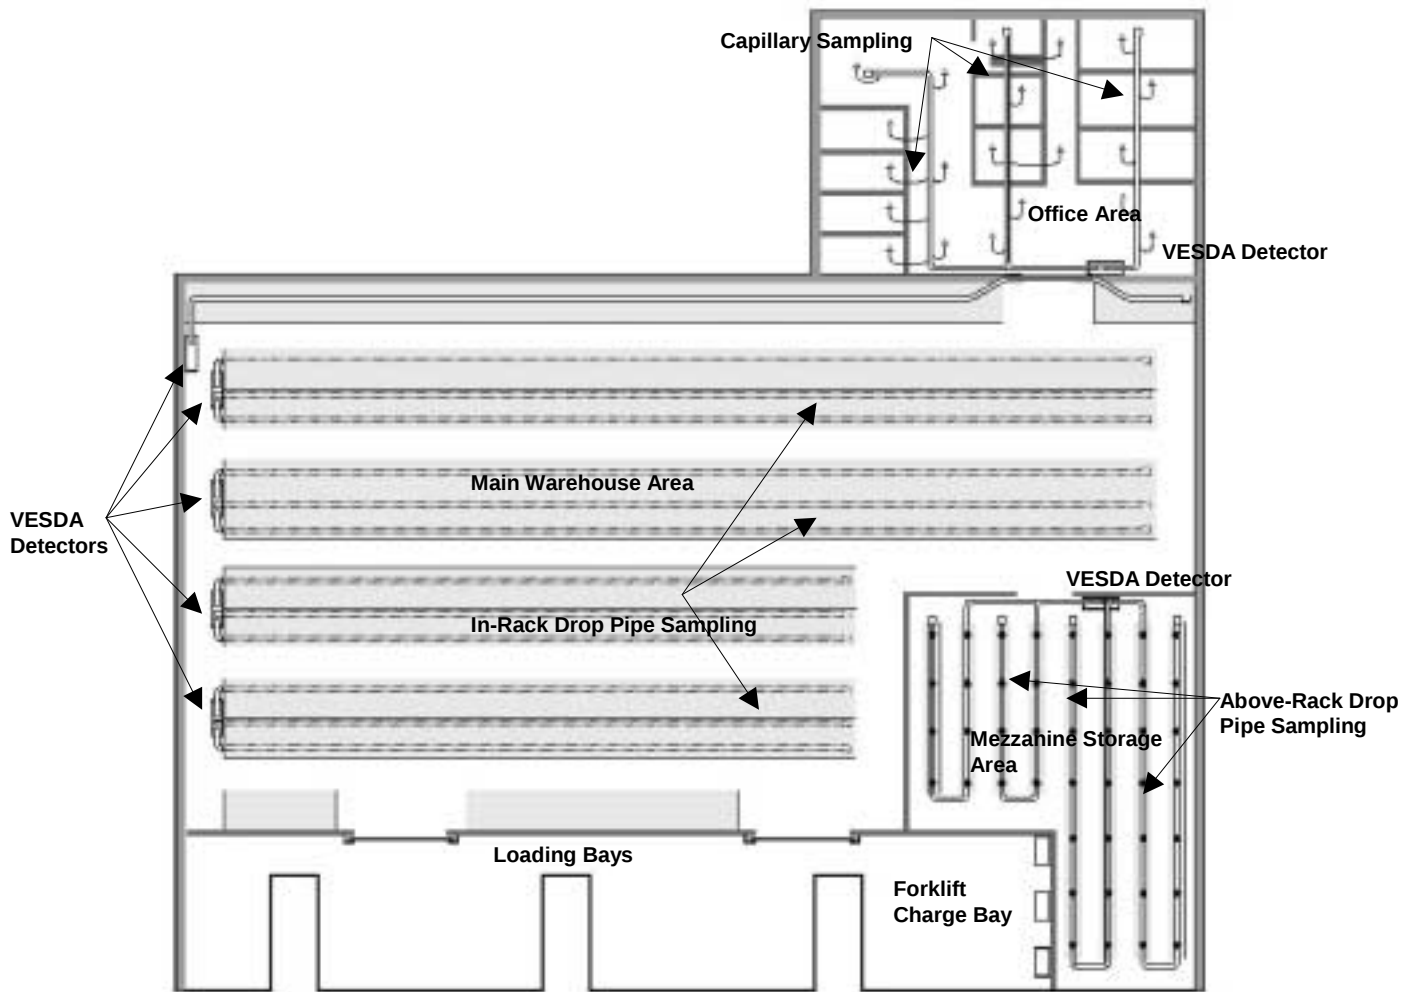

Figure 8 Warehouse Top View - In-Rack, Above-Rack & Capillary Pipework Configuration
The effect of smoke stratification is addressed by installing drop pipe sampling from the roof level. In the illustrated example, the drop pipes are positioned to lengths of six (6) metres to sample from multiple levels, and positioned as per the standard grid layout. Refer to Figure 8.
In-rack drop pipe sampling protects the high-bay racking located in the main warehouse area. The drop pipes are positioned inside the racking to prevent breakage by forklift, etc. The dual-level mezzanine storage area has above-rack drop pipe sampling positioned above the storage racking. Refer to Figure 8